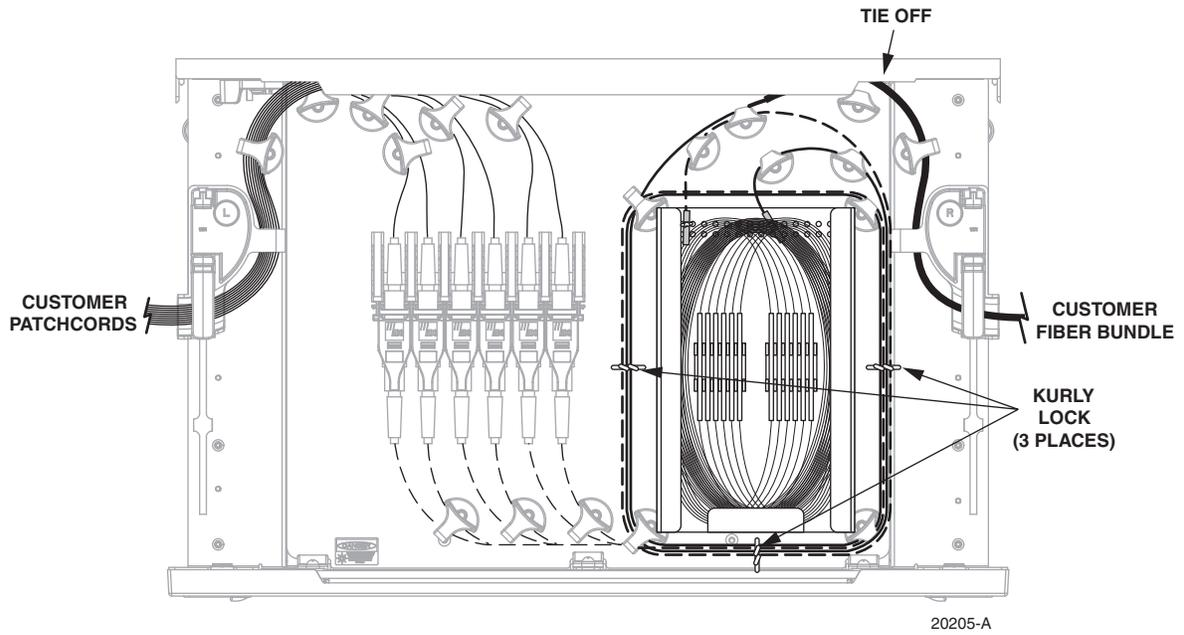

Figure 19. Completed Cable Routing for 12-Position Termination and Splice Tray
5. Use the curly locks provided to bundle fibers together as needed. Place curly locks at locations indicated in Figure 19.
6. Verify that the completed tray looks as shown (see Figure 19).